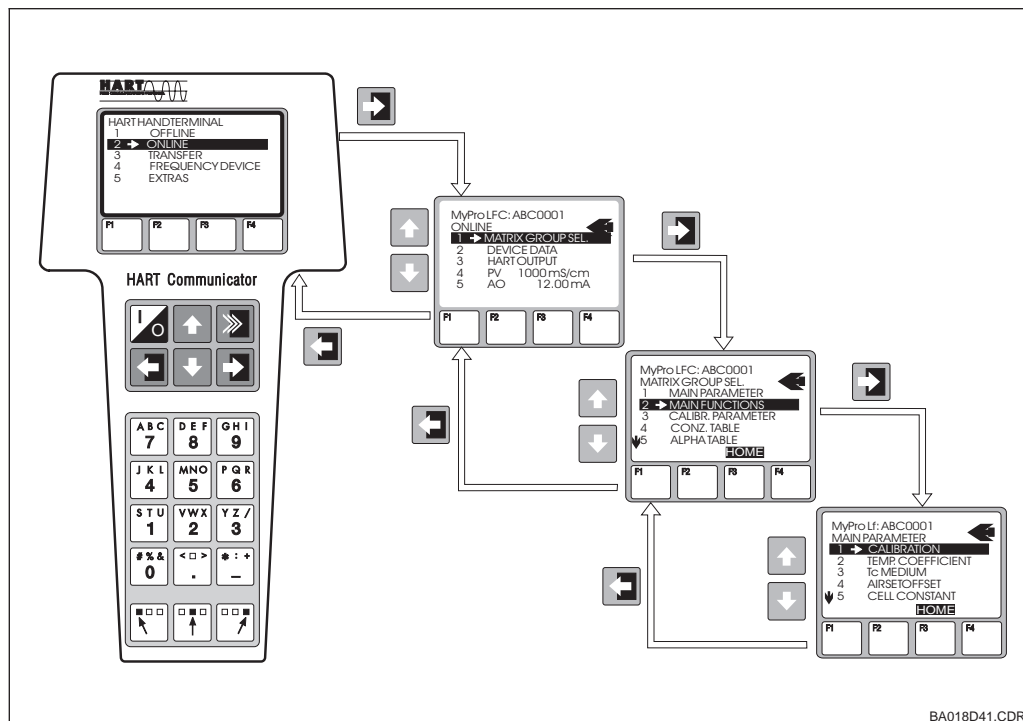
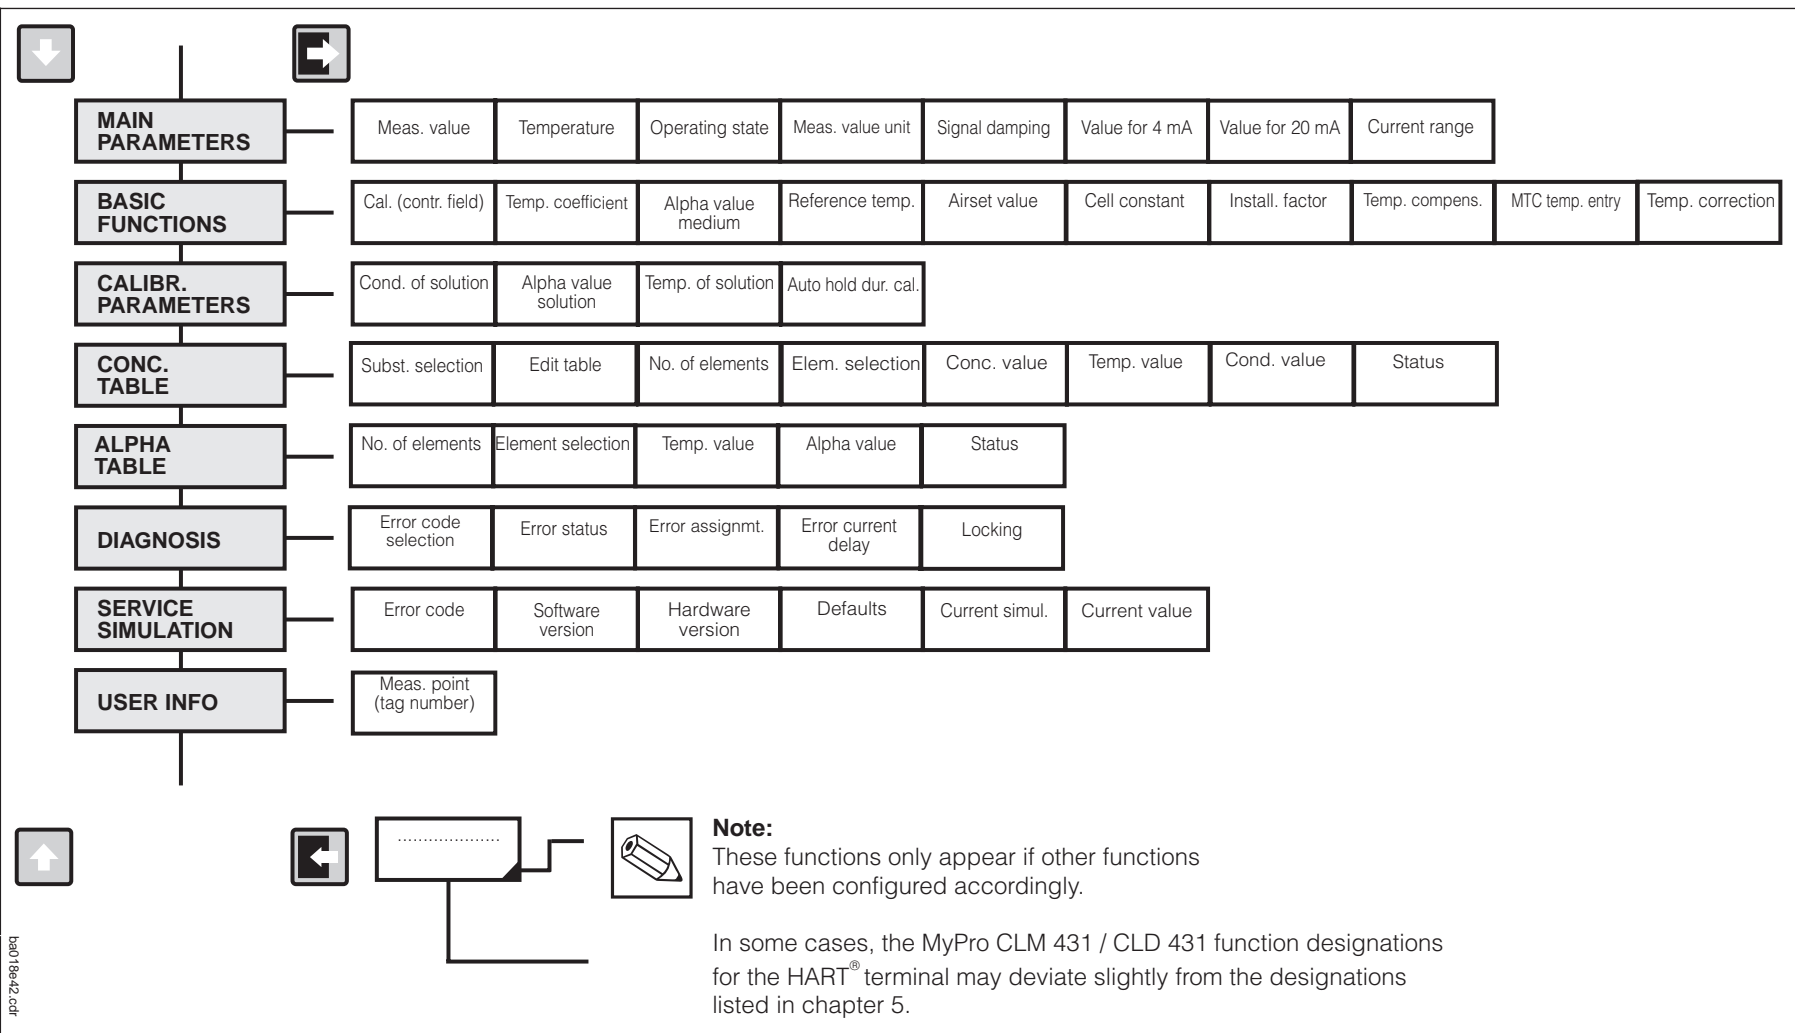

Fig. 6.2 Operation of hand-held terminal
Fig. 6.3
Operating the MyPro CLM 431 / CLD 431 measuring system via the hand-held terminal is quite different from field operation via the pushbuttons on the keypad. When using the HART® Communicator, all MyPro CLM 431 functions are selected at different menu levels (see figure 6.2) and with the aid of a special E+H operating menu (see figure 6.3).
- The „Online“ menu level is used to display the current data measured, such as conductivity, temperature, etc., and also allows you to access the MyPro CLM 431 / CLD 431 operating matrix via the „matrix group selection“ line (see figure 6.2). All function groups and functions accessible through HART are displayed in this matrix in a systematic arrangement.
The „Online“ menu level is used to display the current data measured, such as conductivity, temperature, etc., and also allows you to access the MyPro CLM 431 / CLD 431 operating matrix via the „matrix group selection“ line (see figure 6.2). All function groups and functions accessible through HART are displayed in this matrix in a systematic arrangement.